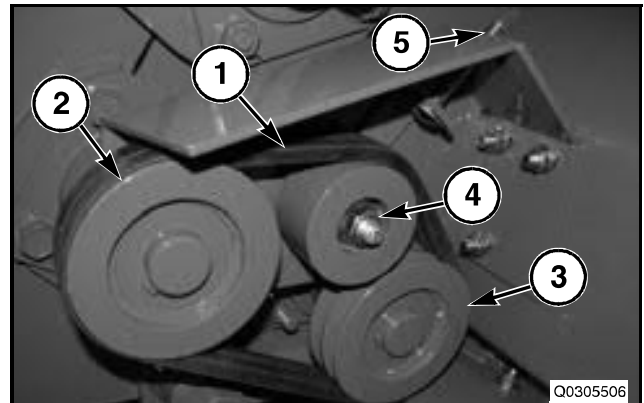

FIG. 18
FIG. 18: Check the tension of the helper roll drive belts (1) between the drive pulley (2) on the lower hay conditioner roll, and the helper roll pulley (3). The tension is correct when there is 3 mm (0.12 in) deflection at mid span with 14 N (3.1 lb) of force.